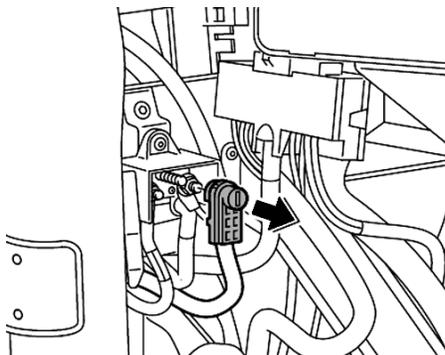

Fig. 1 Battery ground cable
4. Disconnect battery ground cable connection at battery, **Fig. 1**.